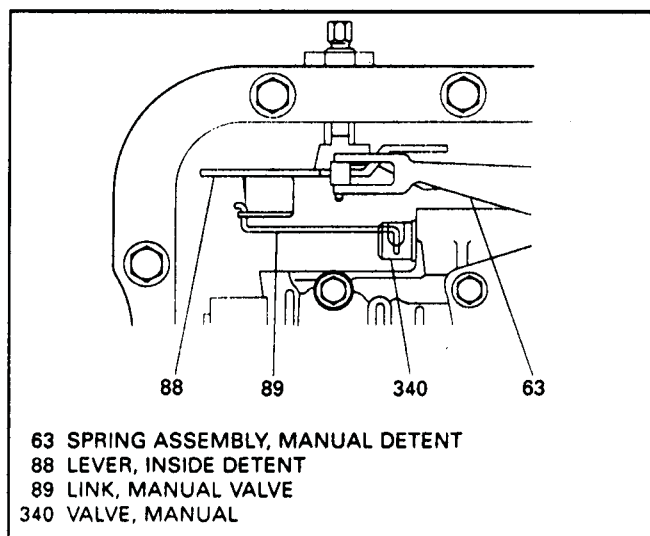

Figure 161
3. Refer to Figure 161 for correct manual valve alignment.
21. Insure that the manual detent spring stays aligned with the inside detent lever (See Figure 161).